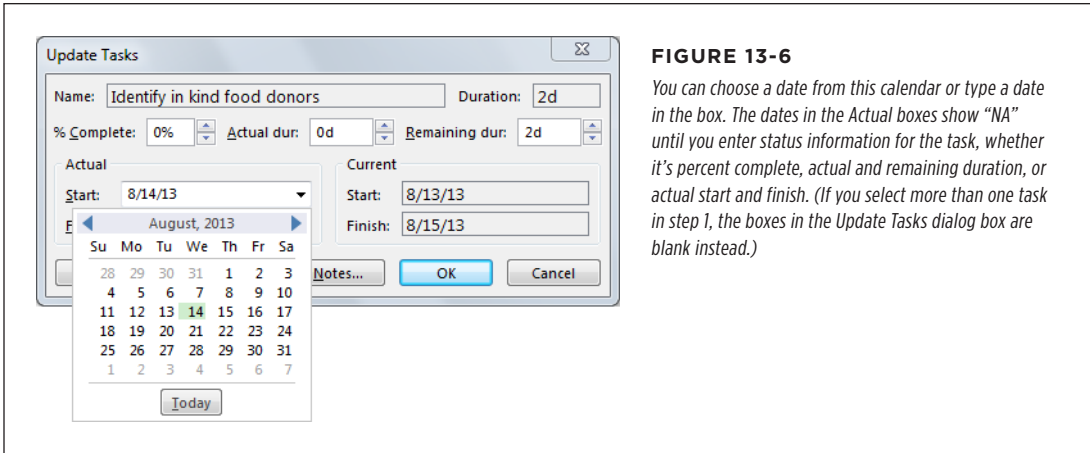

FIGURE 13-6
- 3. In the dialog box's Actual section, click the arrow in the Start box, and then choose the actual start date from the calendar drop-down menu, as shown in Figure 13-6. Do the same in the Actual section's Finish box to set the actual finish date.**